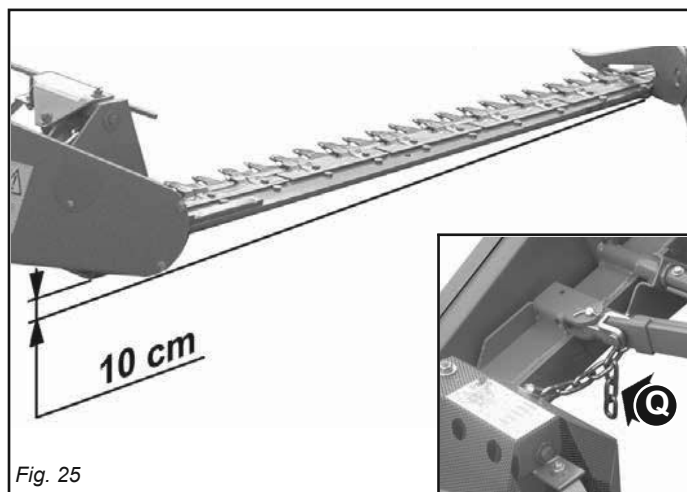

Fig. 25
- Adjust the height of the cutting arm from the ground with chain (Q, Fig. 25). Lower the mower; when the external tip of the arm touches the ground, the inner shoe must remain approximately 10 cm. above ground level (Fig. 25). Adjust by moving the chain links.
So that the mower will work well, we advise you to fix the chain (Q, Fig. 25) to the equalizer (P, Fig. 24), leaving the last links of the chain free.
- The mower may be used with the cutting arm tilted for working on canal, ditches, embankments, etc. by adjusting hoisting chains (N, Fig. 24) and (Q, Fig. 25) after removing the mowing guide of the external shoe.